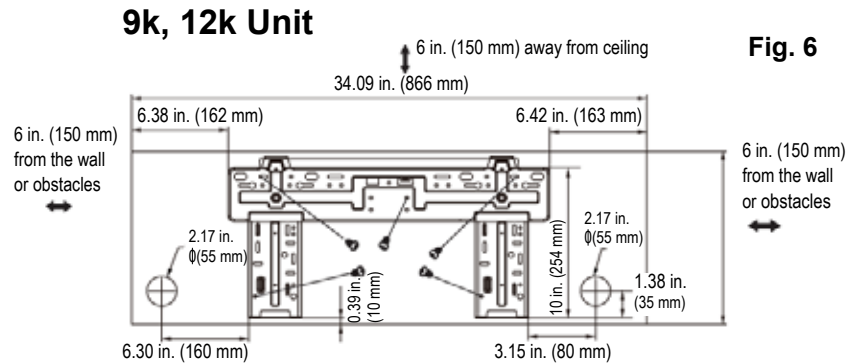
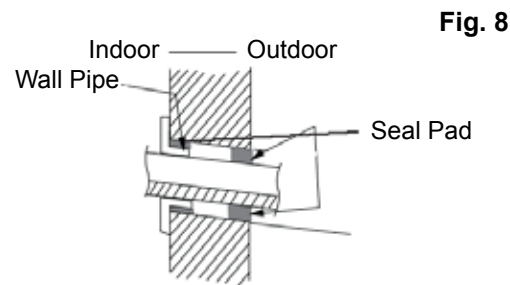
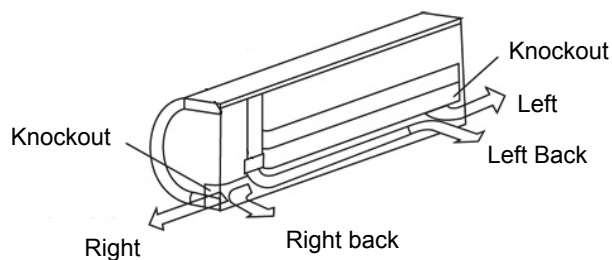

Fig. 6
Fig. 8
Fig. 11
- Determine hole position according to the wall bracket that comes with your unit, the unit's required clearances (Fig. 6 and 7) and which direction (left/right) the lines will be routed from the back of your unit (Fig. 11). Drill 2.5" (65mm) hole angled downward (approx. 45°) toward the outdoors. (Fig. 8).
- A. Remove the knockout from the desired side of the unit that the line set will be routed from. The lines from the unit can be routed either left or right, left back or right back (Fig. 11).
- B. Loosely run the line set connections from the indoor unit through the hole in the wall (Fig. 8).
- E. Feed the condensate drain line and refrigerant line set through the hole such that the unit can sit flush against the wall then remove the spacer (Fig. 8).